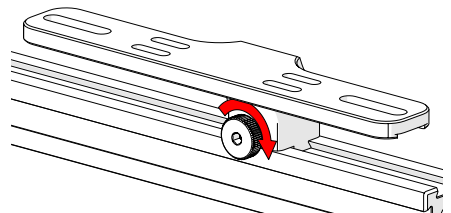

Fig. 158 - Tighten knob
2. Tighten the knob to lock preamp bracket in place (*Fig. 158*).